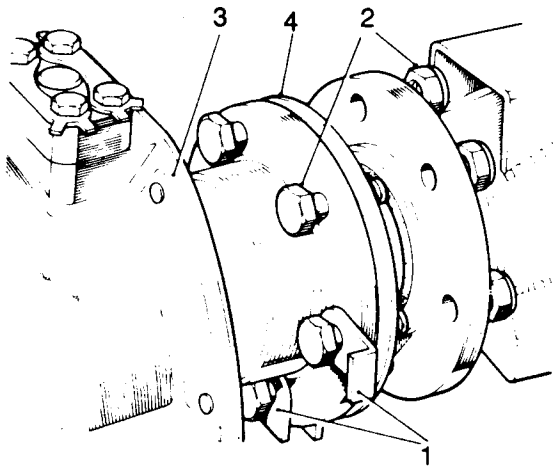

Fig J1.36
(4) Refer to Fig J1.36. Note the fitted position of the steering lock stop plate (1) and on the RH side only, the jack location stop plate.
(5) Remove the fixings (2) swivel pin housing to axle case.
(6) Withdraw the swivel pin housing (3).
(7) Withdraw the joint washer (4).